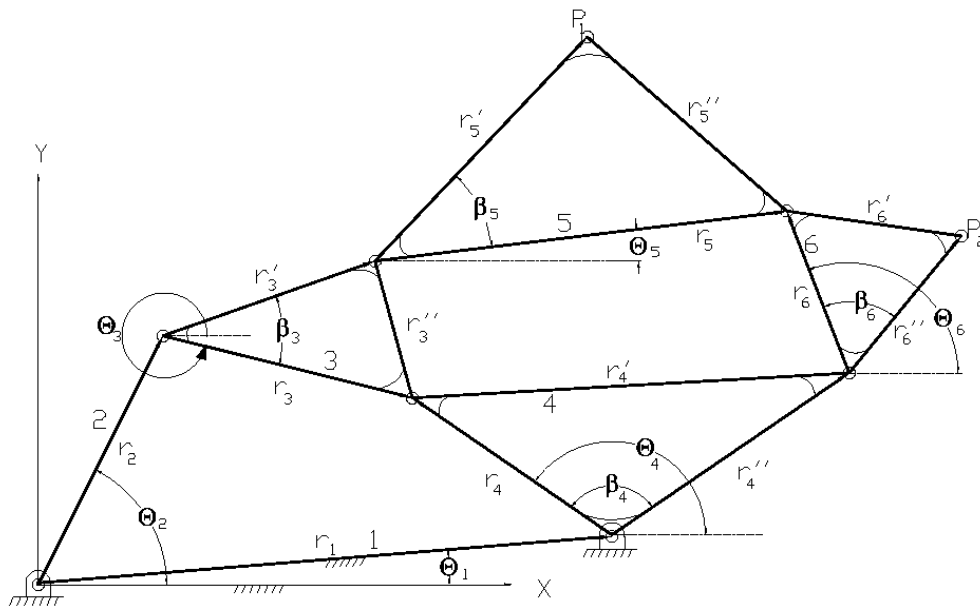

Figure 5.7: Watt (I) Sixbar Linkage
5.2 Watt Six-bar (I) Linkage
A Watt (I) sixbar linkage is assembled from two fourbar mechanisms. All four links r''_3 , r'_4 , r_5 , and r_6 of the second fourbar linkage are movable. For the Watt (I) sixbar in Figure 5.7, note that there are two coupler points attached to the mechanism at links 5 and 6.
The position of the two coupler points in Figure 5.7 can be derived directly from vector analysis. The position of the coupler point, P_1 , is simply the vector sum of \mathbf{r}_2 , \mathbf{r}'_3 , and \mathbf{r}'_5 shown in equation (5.74). Likewise, the position of P_2 is written as equation (5.75). Writing these two equations in their polar form (5.76) and (5.77) reveal that the position of either point can be determined given the required link lengths and angles. The first and second derivatives of equations (5.76) and (5.77) will produce the equation for the coupler point velocities (5.78) and (5.79) and coupler point accelerations (5.80) and (5.81), respectively. Similar